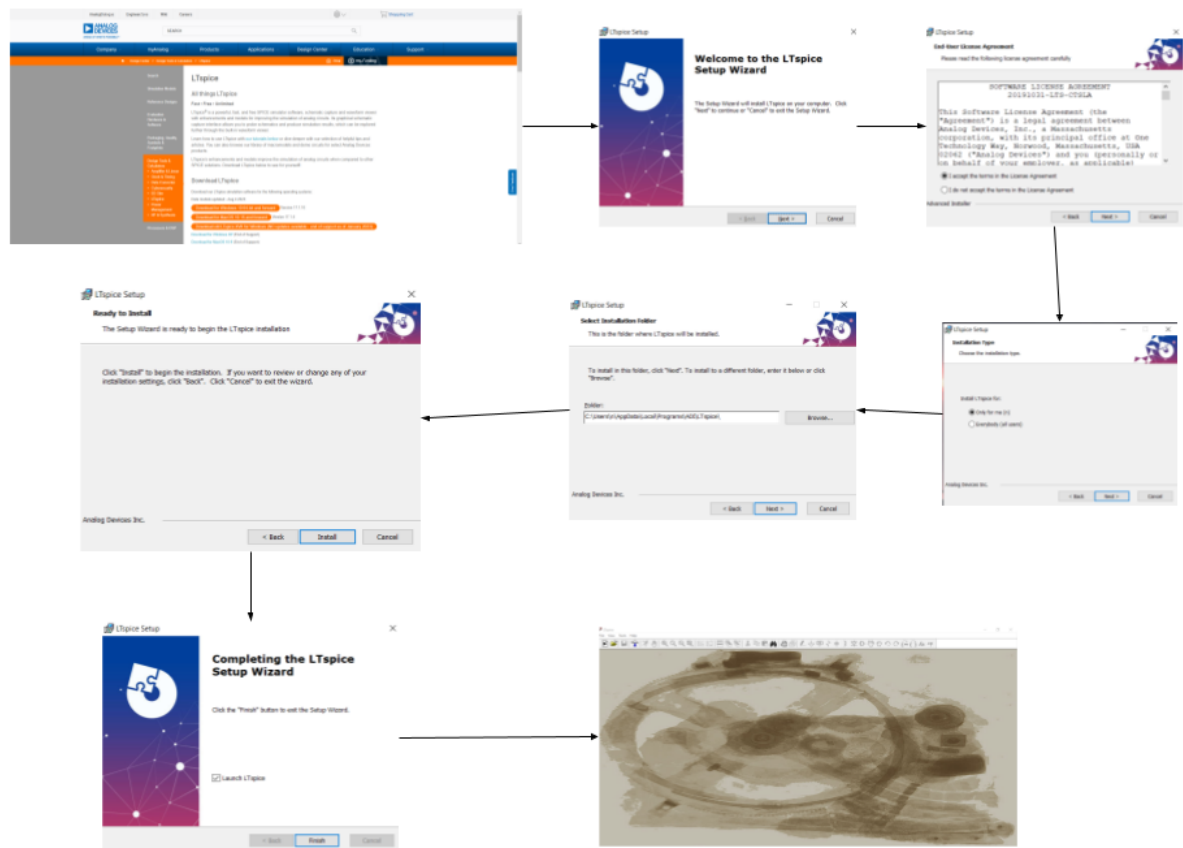

Figure 5: The LTSpice software installation process.
- Install LTSpice on the computer. First, go to the Analog Devices website where the LTSpice software can be found (<https://www.analog.com/en/design-center/design-tools-and-calculators/ltspice-simulator.html>). Then, download the correct version of the software for your computer's operating system. After opening the installation software, a series of prompts will appear. Select "next" on the setup wizard opening page. Then agree to the user agreement. Next, select the file location for the software to be installed. After that, wait for the software to install. Finally, Select the option to launch LTSpice and the setup wizard will close. The LTSpice software should open up with a blank page [1]. Please see Figure 5 for more information.